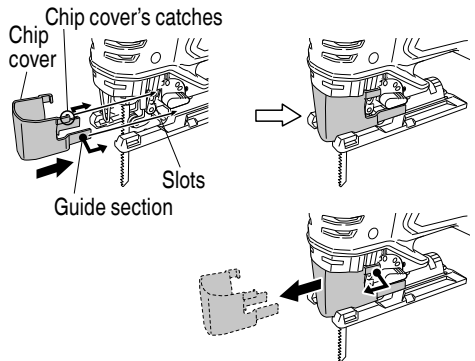

Fig.17
10. Attaching and detaching the chip cover (Fig. 17)